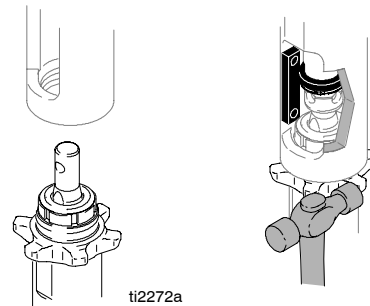

Fig. 14
2. Fig. 14 - 16. Install pump.
1. Fig. 14. Screw jam nut to bottom of pump threads. Screw pump completely into manifold. Unscrew pump from manifold until pump outlet aligns with hose. Hand tighten jam nut, then tap 1/8 to 1/4 turn with hammer or torque to 200 ft-lb (270 N·m).